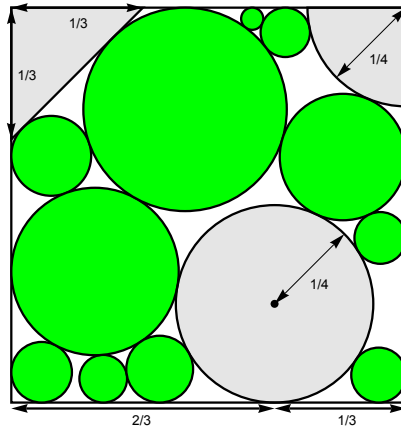

Figure 3: Packing of 11 disks with  $d = 0.799$
**Problem 3:** We pack disks into a unit square with three forbidden zones. Figure 3 shows 11 disks packed into this region (forbidden zones in gray) and this particular arrangement gives density  $d = 0.7990$ . Your third problem is to determine good upper bounds on **a)**  $N(0.85)$  and **b)**  $N(0.90)$ . Make figures of these packings.